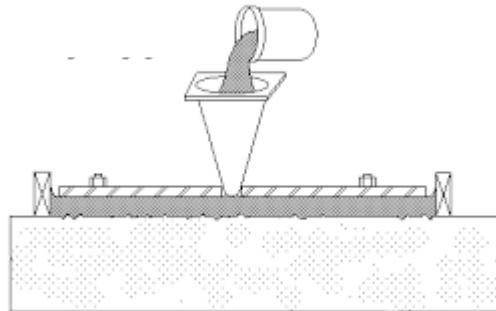

Figure 3: Typical grout hole
1. If grout is to be poured in cold weather (less than 50 F, 10 C), the support, shim pack and concrete shall be heated to a minimum of 70 F, 20 C. Heating shall be in place for (3) days before grout is installed in extremely cold weather (less than 32 F, 0 C).
2. If grout is to be poured in cold weather (less than 50 °F, 10 C), all grout materials shall be stored in a room temperature location for (48) hours before it is used. The bagged aggregate should be removed from the pallet and spread out so air can circulate around individual bags. Check the aggregate temperature using a thermometer, internal temperature must be a minimum of 65 F, 18 C. Do not heat aggregate in excess of 80 F, 26 C.
3. Coat the interior of the outer form completely with grease, Duct Tape, or Polyethylene film (stapled on back side of form). Paraffin wax shall not be used as a release agent. Anti-seize must be applied to all anchor bolts, and leveling bolts if present, to allow release from the grout. If the support being grouted is large, a grout hole may need to be installed so the grout does not form voids as shown in Figure 3.